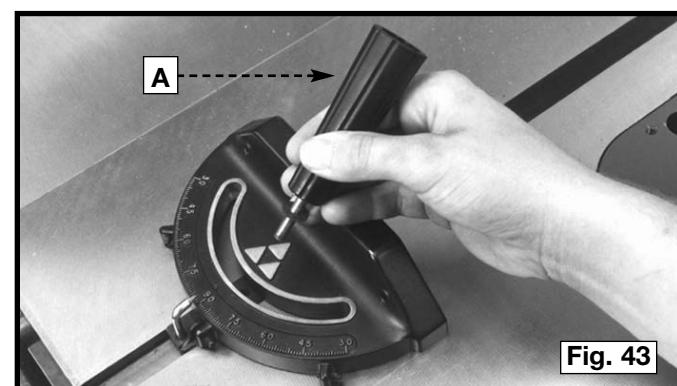

Fig. 43
7. If the blade is not at 45° to the table, turn the blade tilting handwheel clockwise until the adjusting screw (D) Fig. 43, and locknut (C) are in view in the opening in the front of the saw cabinet. Loosen the locknut (C) and tighten or loosen the adjusting screw (D) until the head of the screw (D) contacts the casting on the front trunnion when the blade is at 45° to the table. Tighten locknut (C).
Insert the miter gauge bar into the miter gauge slot on the table. Attach the washer and lock handle (A) Fig. 43 to the miter gauge bar.